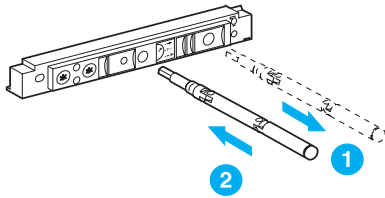

Fig. 1
- Fit the racking crank (see Fig. 1).